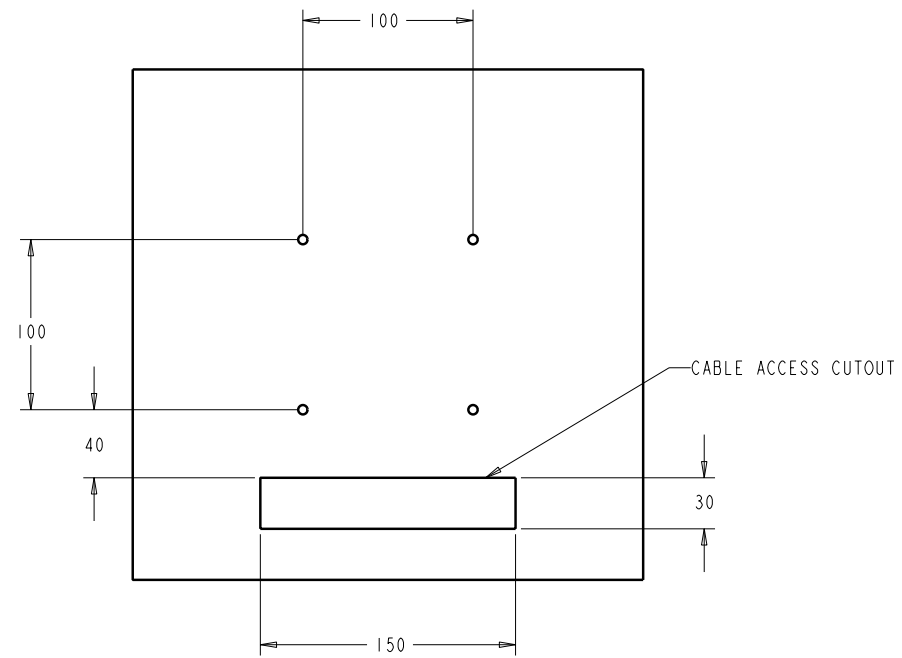

FIGURE 5: FRONT MOUNT TEMPLATE
1. REMOVE THE TWO SCREWS HOLDING THE FRONT COVER TO THE STAND (SEE FIGURE 5). RETAIN SCREWS FOR REASSEMBLY.